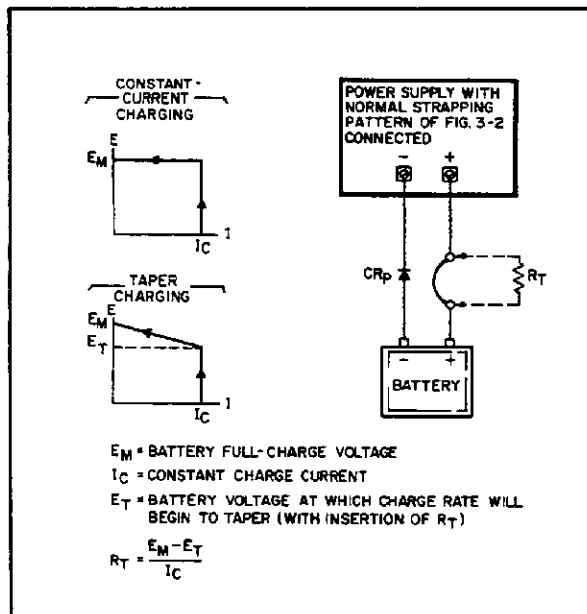

Figure 3-14. Battery Charging
Any time these supplies are used to charge a battery, be sure to install a protective diode CR_P in series with the battery as shown in Figure 3-14 to prevent the battery from discharging into the supply if the supply is turned off. Extensive damage to the supply could result if this diode were omitted.
- b. Connect a short circuit across the output terminals and rotate the VOLTAGE control fully clockwise (CW).
- e. Adjust the VOLTAGE control for an output voltage 0.7 volts greater than the desired full charge voltage. (The added 0.7 volts compensates for the drop across CR_p.) The supply may then be connected to the battery terminals, positive to positive and negative to negative as shown in Figure 3-14 (omit R_T).
3-82 Taper Charge. When charging lead-acid cells, many manufacturers recommend that the charging current be reduced as the charge nears completion. This can be accomplished by inserting a small resistance (R_T) in series with one of the load leads from the supply to the battery. (See Figure 3-14.) This resistor alters the normally rectangular charging plot in such a manner as to provide a taper charge for the last portion of the charge. The proper value for this resistor is the difference between the full charge voltage and the voltage at which the tapering is to start, divided by the initial charging current. Set the initial charging rate and full charge voltage as instructed in paragraph 3-81.